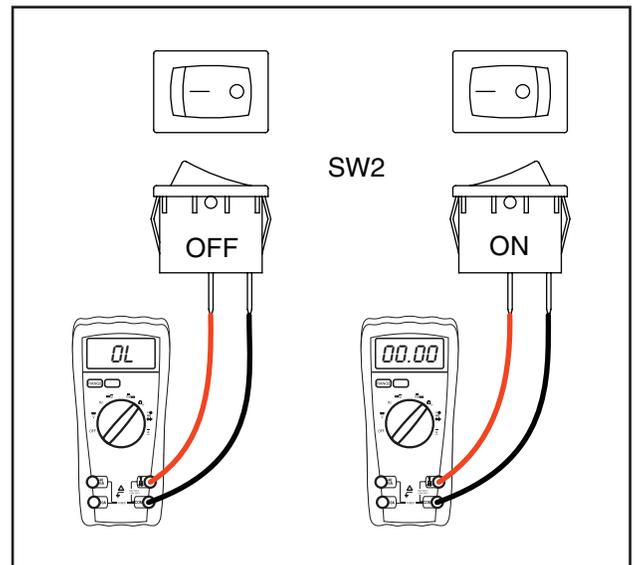

Figure 6-59. – Check Idle Control Switch (SW2)
3. Connect meter test leads across both terminals of SW2. See Figure 6-59.